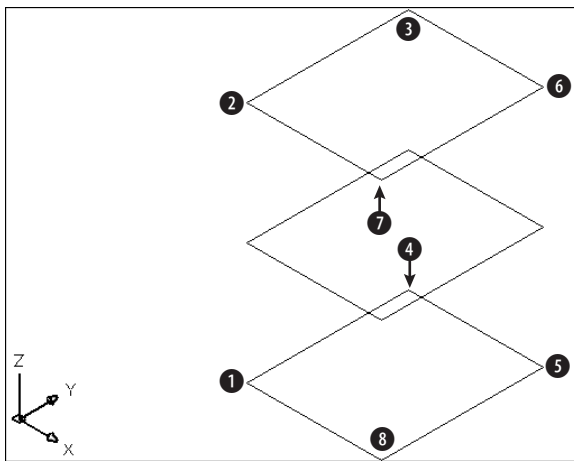

Figure 23-6: The three 3D faces from an isometric viewpoint
7. To draw the door of the cabinet, change the current layer to CONST. Start the LINE command and draw a line from 2 in Figure 23-6 to @18<225. End the LINE command. Now start the COPY command and copy the line from 2 to 1. These two construction lines frame the door.
Specify point on positive portion of X-axis <-0'-5 3/4",-0'-6 3/4",0'-0">: *Pick 1 in Figure 23-6.*